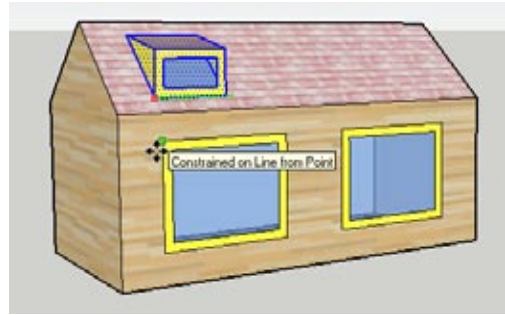

Figure 5-20
9. The next step is to move the dormer directly above one of the windows already on the house, which will require direction locking. Select the whole dormer and activate Move. Click the dormer's lower-left front corner and start to move the dormer in the green direction (or red, depending on how you made your house). Press and hold Shift to lock the direction. Then click any point along the left edge of the window below. This aligns the left side of the dormer with the left side of the window below it (Figure 5-20).